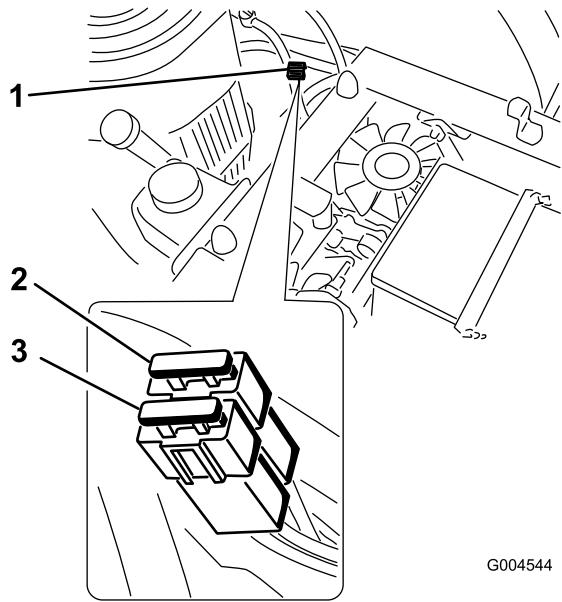

Figure 38
1. Raise the seat to gain access to the fuses on the left side of the machine (Figure 38).
3. Install a new fuse (Figure 38).